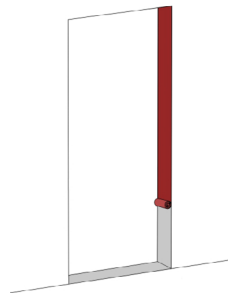

Fig. 6.
2.6. It is necessary to waterproof the door opening along the perimeter using waterproofing tape (Fig. 6).